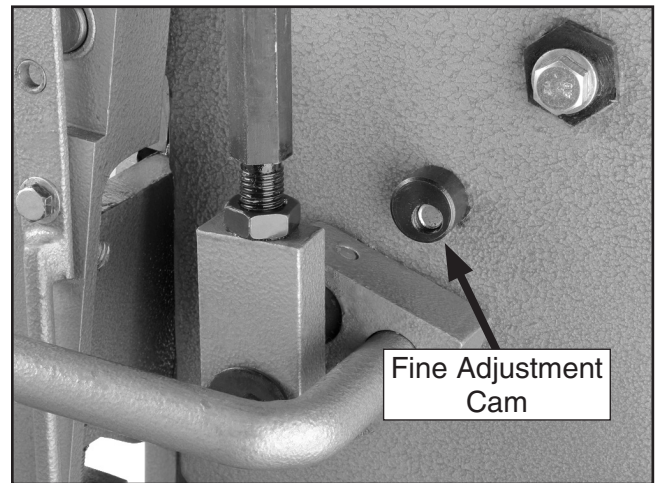

Figure 11. Clamping pressure fine adjustment cam.
5. Loosen the cam shown in **Figure 11** and rotate it to fine tune the clamping pressure.